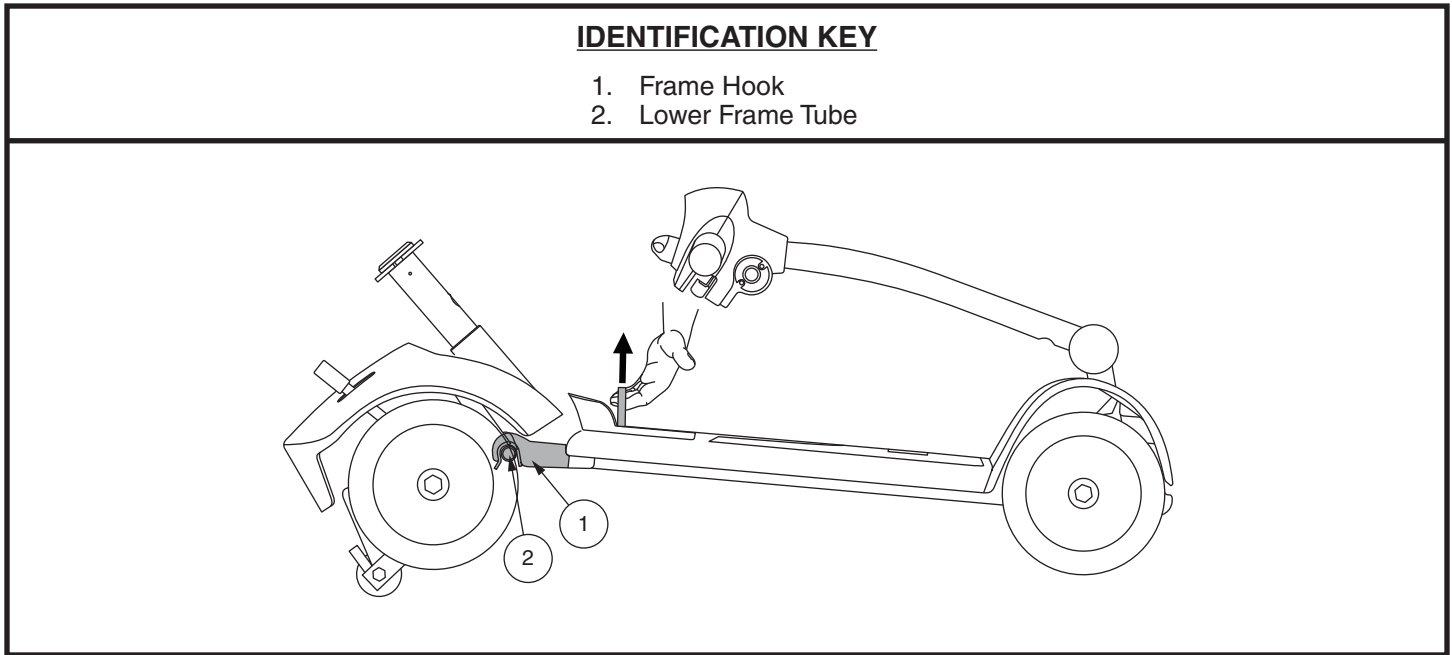

Figure 15. Frame Release Lever (Style A)
2. Lift up on the frame release lever. Slowly separate the two sections of the Travel Scooter. **See figure 15.**
NOTE: Before attempting assembly, tilt the rear half of the Travel Scooter slightly back on the anti-tip wheels as shown in figure 15.
2. Once the frame hooks are over the lower frame tube, lower the front section and pivot the rear section simultaneously. This will engage the frame lock-up. **See figure 15.**